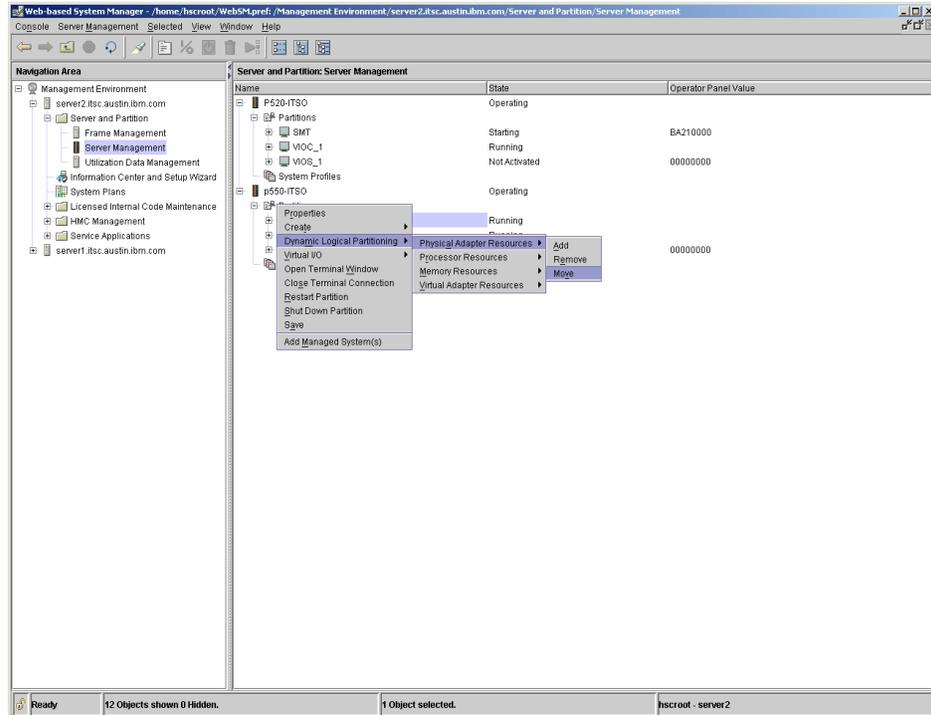

Figure 5-6 Dynamic LPAR physical adapter operation
1. Right-click the partition that currently holds the adapter and select **Dynamic Logical Partitioning** → **Physical Adapter Resources** → **Move** (see Figure 5-6).